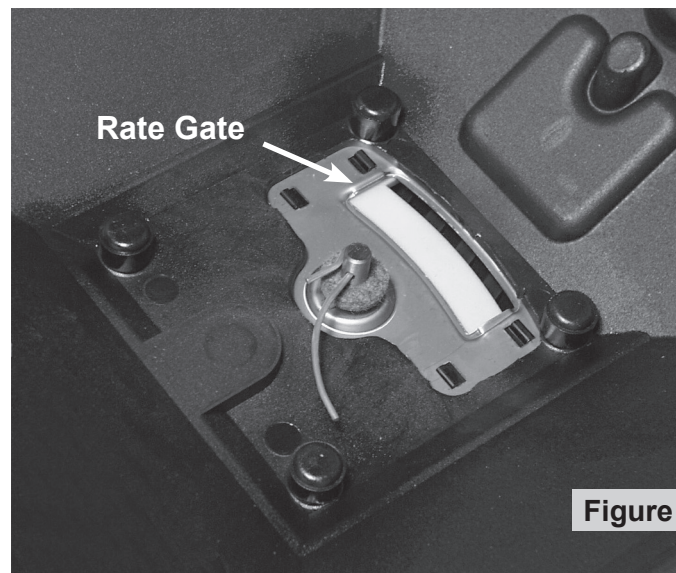

Figure 14
20. With rate gate dial set to 0, move control lever back and forth and ensure rate gate opens and closes fully, Figure 14. If necessary adjust Control Lever Bracket assembly forward or necessary. Fully tighten hardware from steps 17 and 19 that hold Control Lever Bracket in place.